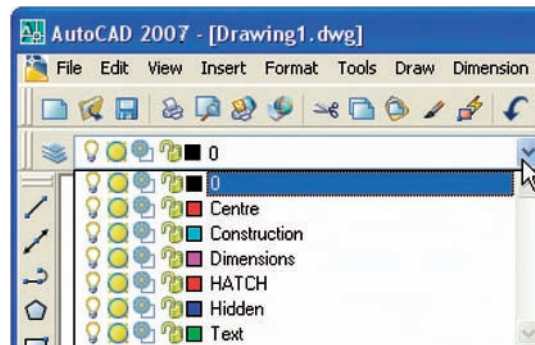

Fig. 8.14 Seventh example – the layers setup for the advanced hatch example
2. Make an extra layer (**HATCH**) as shown in Fig. 8.14.